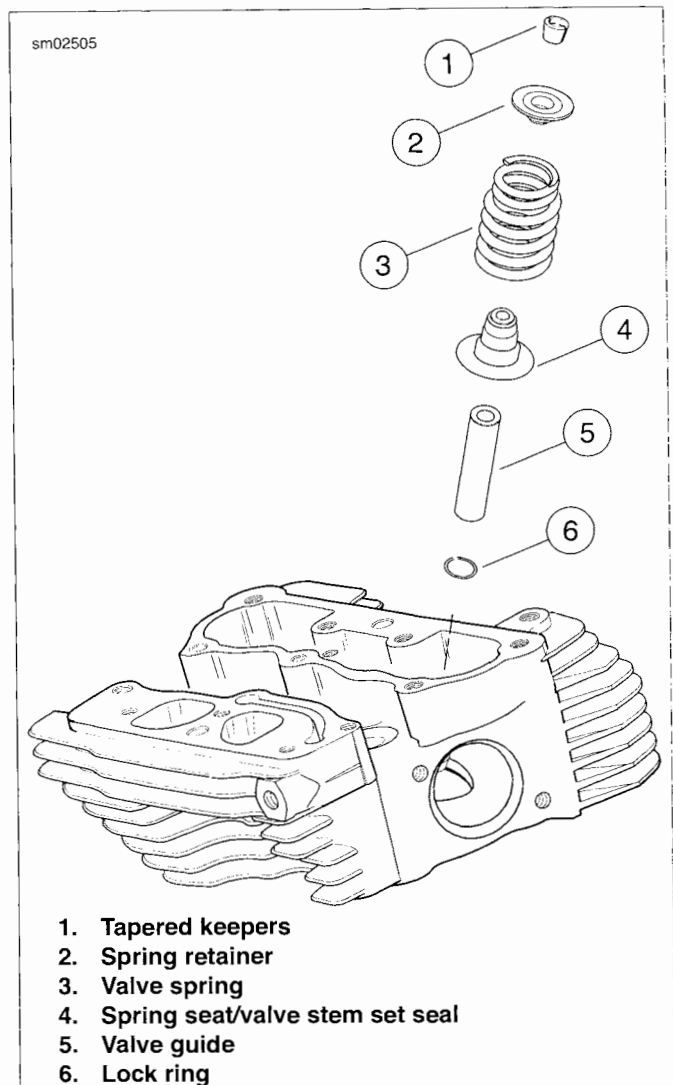

Figure 3-111. Valve Assembly
11. See Figure 3-111. Apply a liberal amount of assembly lube to valve stem tip and keeper groove (1).
12. With the smaller diameter coils topside, install the valve spring (3) over the valve guide (5). Place the spring retainer (2) on top of the valve spring.